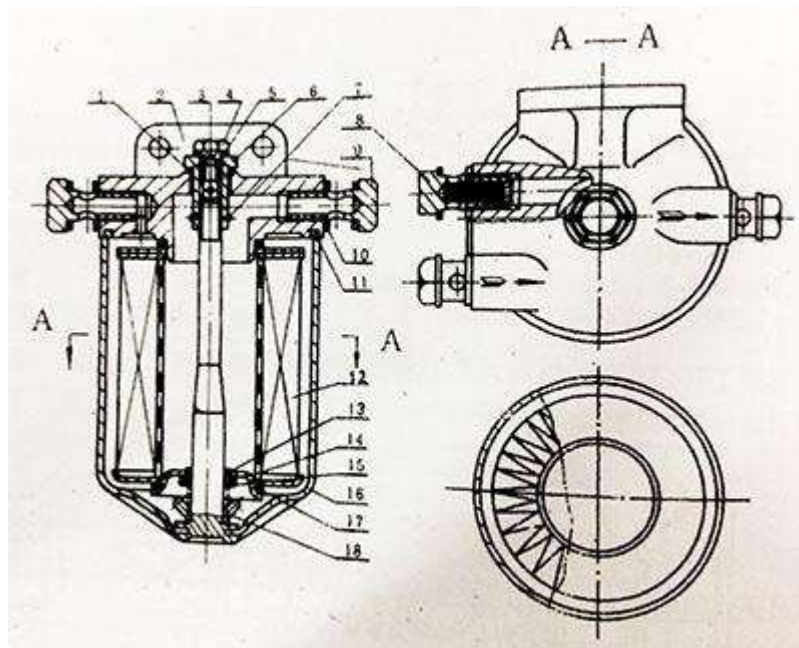
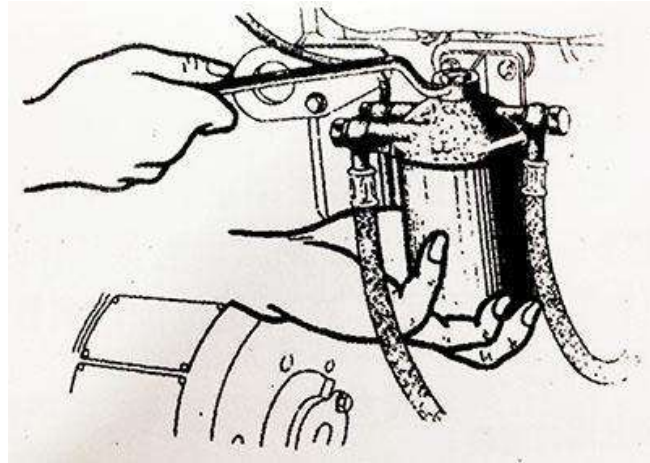
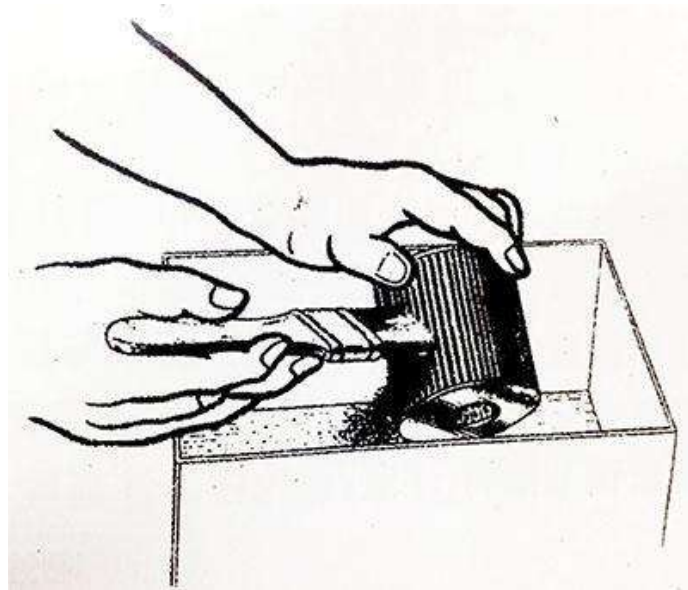

Figure 1: Fuel filter assembly section
Figure 2: Fuel filter overhauling
Figure 3: Cleaning fuel filter element
- Figure 1 is a schematic plan view of an injection system according to the present invention;
- Figure 2 is an enlarged cross-section along line II-II in Figure 1; and
- Figure 3 is a partial enlarged cross-section of a detail of the system in Figure 2.
As Figure 1 illustrates, 1 indicates as a whole a fuel injection system for an endothermic engine 2 of the type which has a plurality of cylinders distributed in two rows. The engine 2 comprises a base 4 in which there are defined two parallel axes Y and Z; along the
axis Y there is provided a first plurality of cylinders 3a, and along the axis Z there is provided a second plurality of cylinders 3b. Each cylinder 3a and 3b (Figure 2) accommodates a respective piston 5, and has in its head a respective intake valve 6.
With reference to Figures 1 and 2, the system 1 comprises:
With reference to Figure 2, the injectors 11 have a head 16, in which there is recessed the fuel inlet mouth, which is accommodated in a respective seat 17 recessed in the fuel manifold 7, and a nozzle 18 (Figure 3) which is accommodated in a seat 21 recessed along the respective fuel supply pipe 8. The fuel manifold 7 is mounted to the side of the base 4, and in particular in the vicinity of the axis Y, such that the pipes 8 which supply the cylinders 3a have a length which is shorter than that of the pipes 8 which supply the cylinders 3b. The injectors 11 have a respective longitudinal axis A which converges towards an area of the base 4 in a median position between the axes Y and Z. The axes A of all the injectors 11 are defined on a single plane, i.e. all the injectors 11 have the same angle relative to the longitudinal axis X of the fuel manifold 7. The air supply pipes 15 lead to a respective fuel supply pipe 8, inside which the air and fuel are mixed in order to obtain the air-fuel mixture which the cylinder 3a, 3b will take in by means of the valve 6 during the intake stage.
With reference to Figure 3, the nozzle 18 of the injector 11 has a plate 22 in which there is provided an injection hole 23 defined along an axis B which converges on the axis A according to an angle α ; the
With reference to Figure 2, the injectors 11 which supply the cylinders 3a are oriented differently, and in particular are rotated around the axis A by 180° relative to the injectors 11 which supply the cylinders 3b. The orientation of the injectors 11 which supply the cylinders 3a, and the angle α of the fuel jet relative to the axis A, cause the fuel jet to strike fully the valve 6 of the cylinders 3a. Whereas the orientation of the injectors 11 which supply the cylinders 3b and the angle α of the fuel jet relative to the axis A, cause the fuel jet to strike fully the valve 6 of the cylinders 3b, this latter solution being illustrated in broken lines in Figure 3.
The fuel filter of diesel engine is mainly composed of three parts: filter element, the shell and filter base (As shown in Figure 1). All models are universal except for the overflow valve 8 that has two structures. Choosing C0810A or C0810B filter should be on the basis of different models. For the 12 cylinder V type diesel genset, it should be installed in parallel with each one of C0810A and C0810B.
The fuel filter of the diesel engine is fixed on the engine body and bracket with two M8-6H screws. If users find that the fuel supply is not smooth, it is possible that the filter element is plugged. At the moment, you should dump the fuel oil. You can directly loosen the pull rod nut of diesel generator set, remove the shell, and take out the filter cartridge (As shown in Figure 2). After the filter element is dipped into gasoline or diesel oil, you can gently wash the dirt off with brush (As shown in Figure 3). If the filter cartridge is broken or hard to clean, it must be renewed. Then install it as shown in Figure 1 and inject the clean fuel.